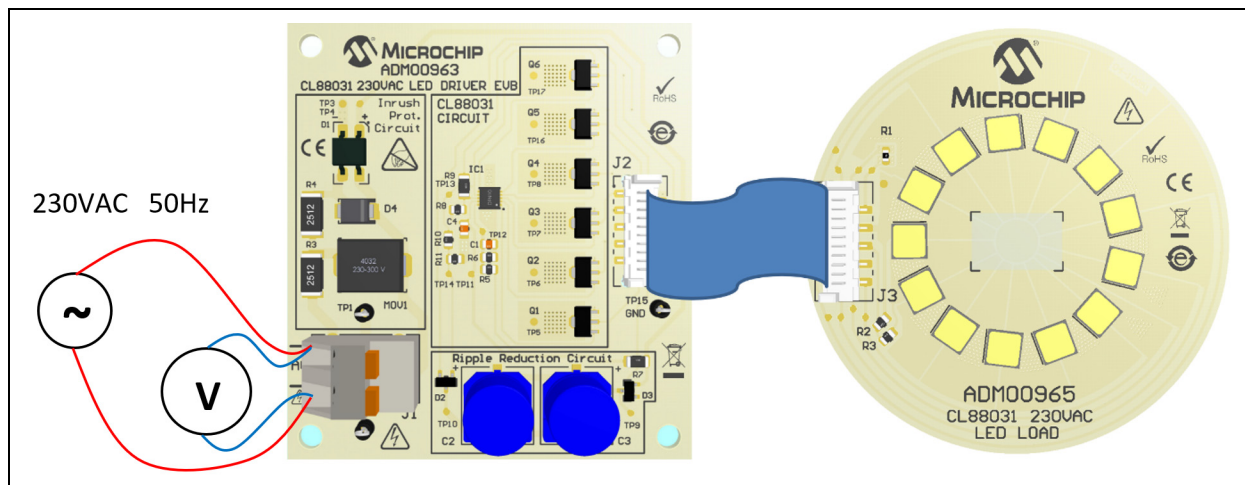

FIGURE 2-1: Connection Diagram.
Figure 2-1 illustrates the connection between ADM00963 and ADM00965.
1. Connect the input AC source and the output LED Load, as shown in Figure 2-1.